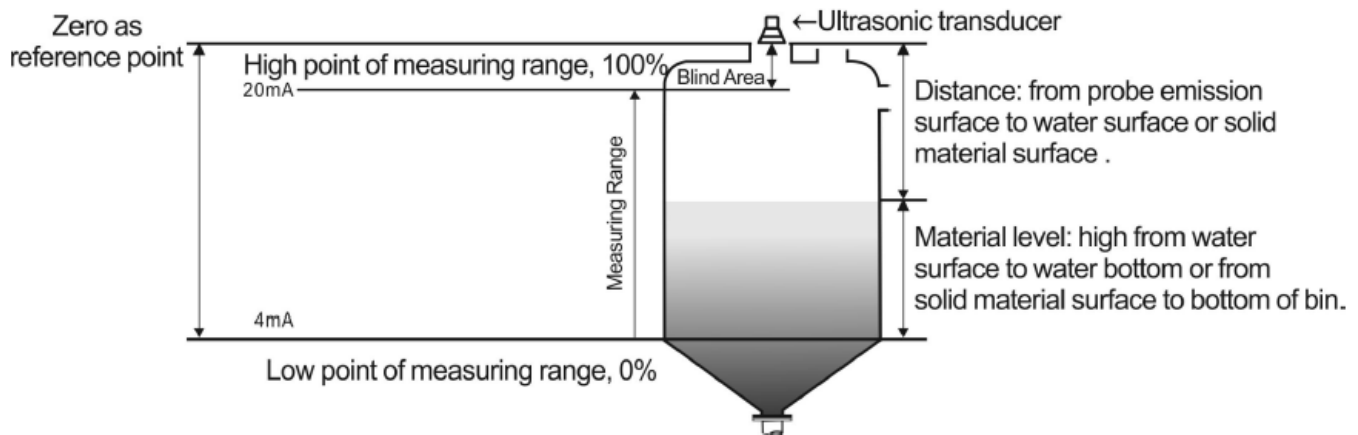

Fig. 1.2 Diagram of Material Measurement Level
② Under material level measuring mode, the positions of reference zero point, maximum of measuring range and minimum of measuring range are as shown in Fig. 1.2